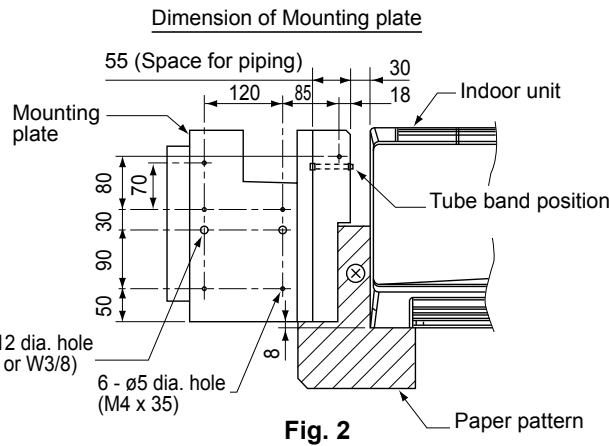

Fig. 2
(3) When the mounting plates is installed, remove the paper pattern.
(4) Check that the mounting plate is level and positioned correctly with the indoor unit. (Fig. 2)